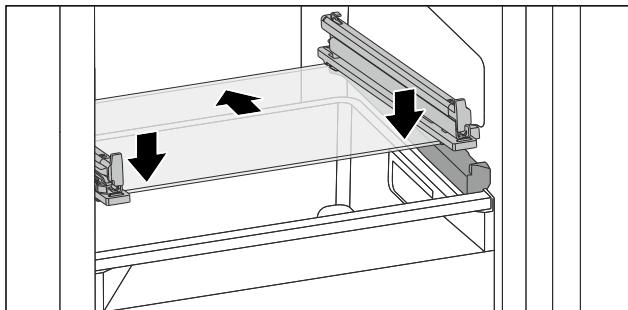

Fig. 109 Tilting drawer glass shelf
- ▶ Position glass shelf at an angle behind the stoppers. (see Fig. 109)